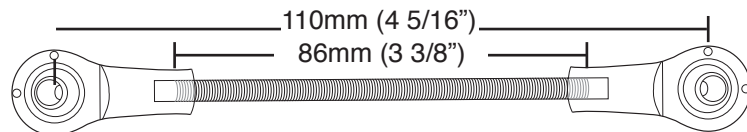

fig. 9
- Trim the threaded rod to 86mm (3 3/8"). The linkage will be 110mm (4 5/16") from eye to eye. The linkage must have a minimum of five threads of engagement into both ends (Fig. 9).